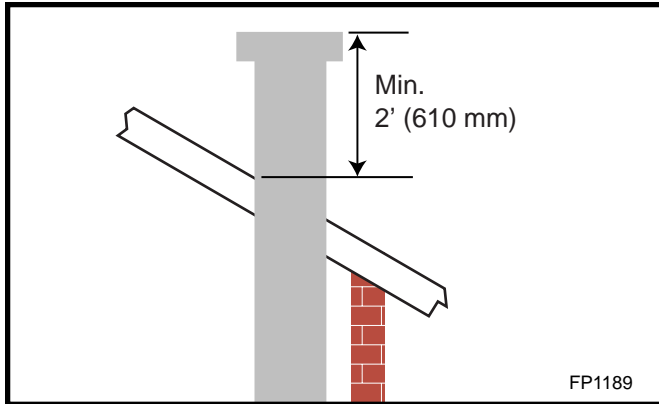

Fig. 37 Minimum termination to roof clearance.
- Minimum height of the vent above the highest point of penetration through the roof is 2' (610mm). (Fig. 37) See Note 2 on Page 12.
10. Add additional vent lengths for proper height. (Fig. 37)